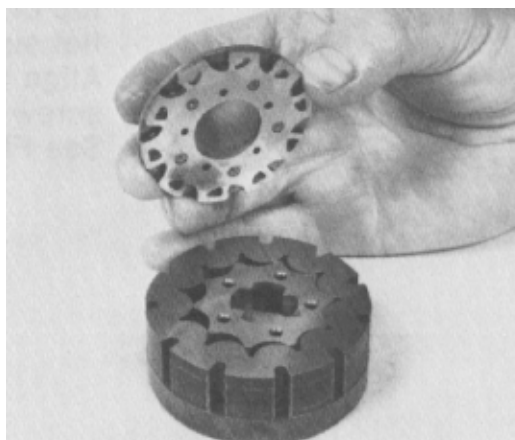

Figure 93
13. Put the commutator on top of the rotor. Be sure the correct surface (Fig. 93) is towards the rotor.
37. To install the valve plate correctly, first carefully study Figures 93 and 94 for positioning of the valve plate spring slots and other cavities in relation to the spring and spring recesses on the isolation manifold. Be sure to use the alignment grooves on the side of the isolation manifold for orientation.